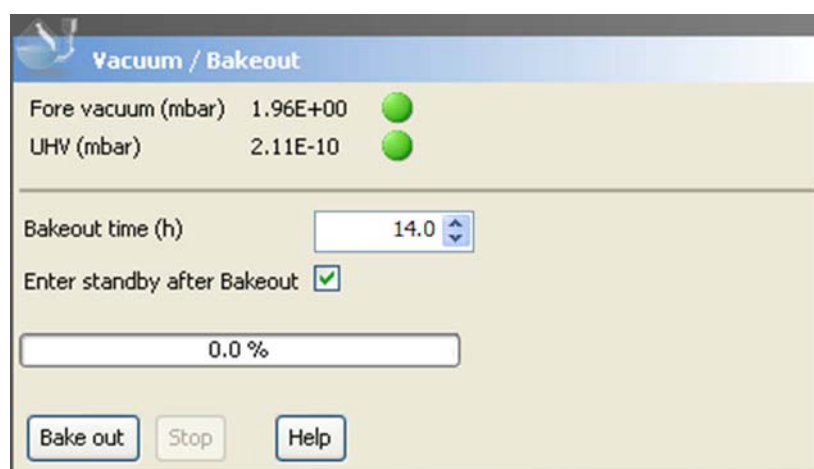

Figure 5-8. Vacuum / Bakeout window
3. Enter the baking duration (in hours) into the spin box. The range is 4 to 30 hours. See Figure 5-8.